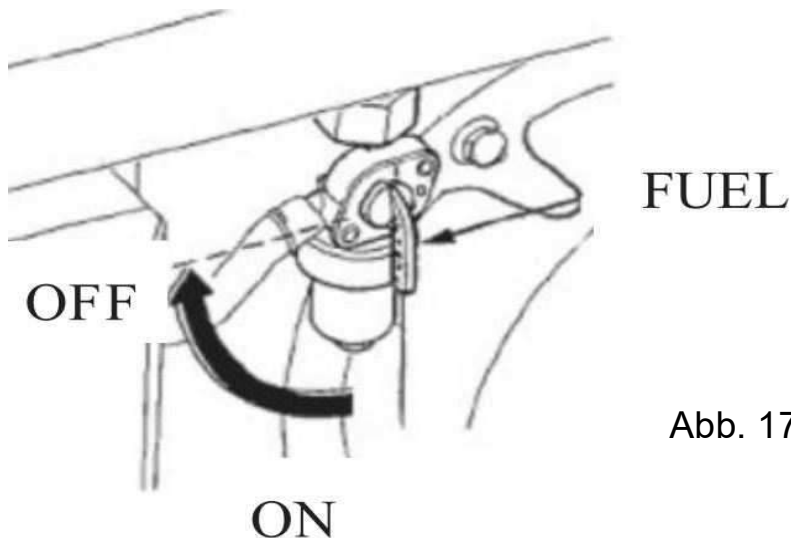

Abb. 17
2. Open the fuel tap (see p.26 fig.17).